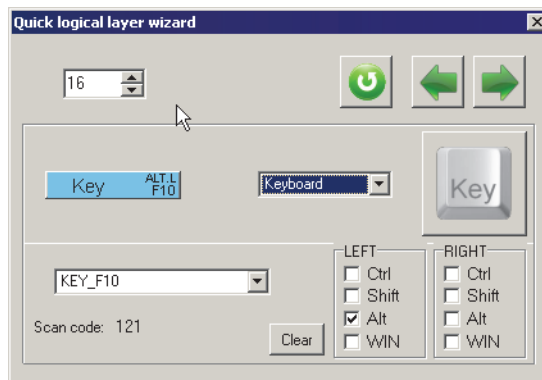

Fig. 5.8.
**Keyboard** item allows to map button to keystroke. **Quick logical layer wizard** dialog for this function is shown on Fig. 5.8.